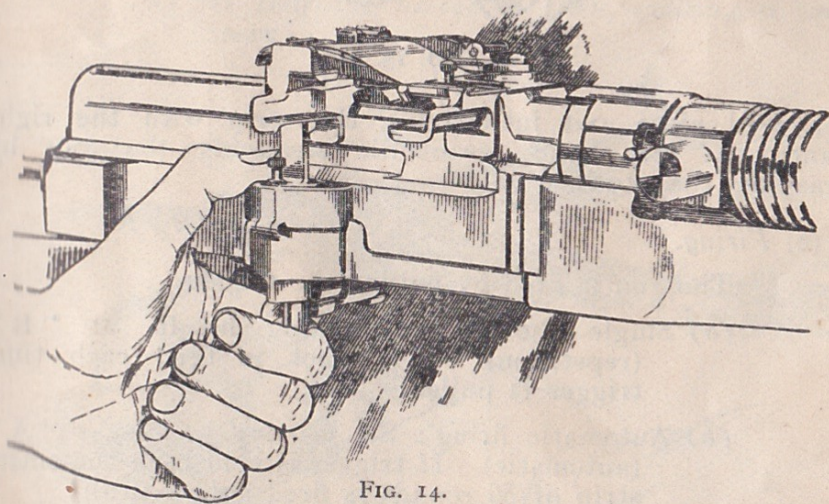

FIG. 14.
(5) *Loading* (see figs. 14 and 15)
(a) Raise the feed piece to its uppermost position by pushing up on its lower extremity with the left hand, placing the thumb on the feed piece housing cover. (See fig. 14.)